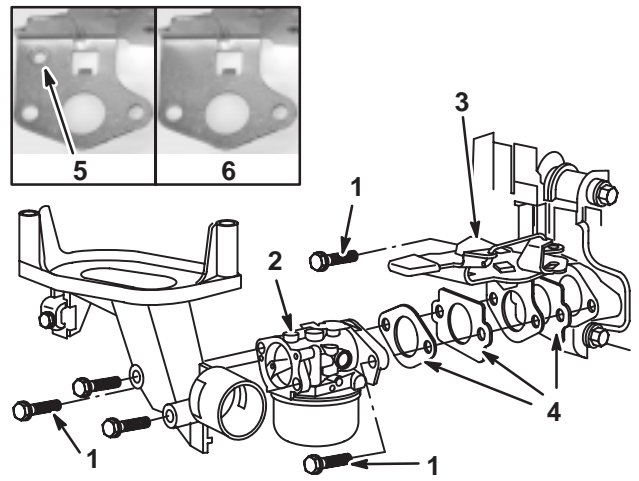

Fig. 31 – Installing Carburetor
- Place new intake gasket on throttle side of carburetor, Fig. 31.
- Using carburetor mounting screws to align parts, place carburetor on control bracket, Fig. 31.
- Install carburetor assembly with two (2) mounting screws torquing screws to 80 in. lbs. (10.0Nm), Fig. 31.